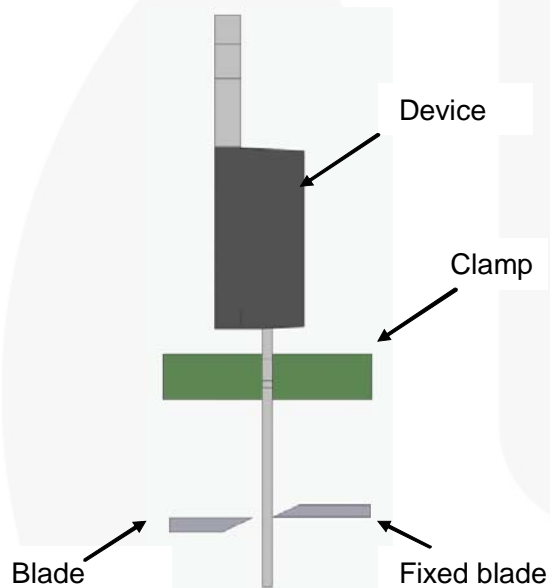

Figure 11. Trimming
- Clamp leads firmly and uniformly between the cut and the mold compound, ensuring the clamp does not come in contact with the mold compound (*see Figure 11*).